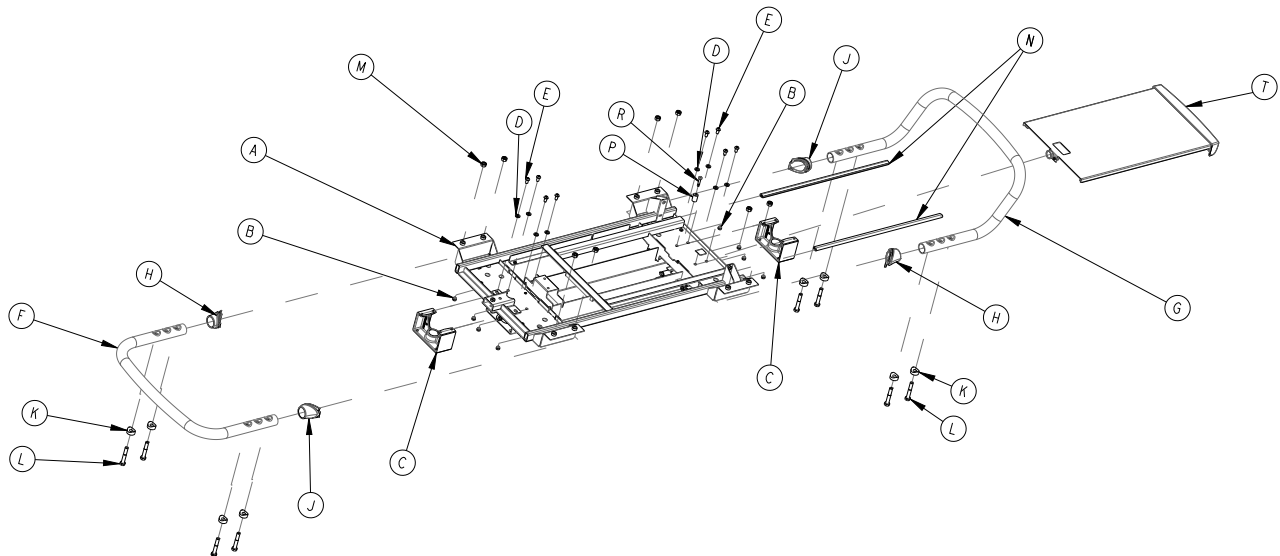

Figure 6 – Cylinder bracket
4. Pull the workspace tray (T) out (Figure 6).